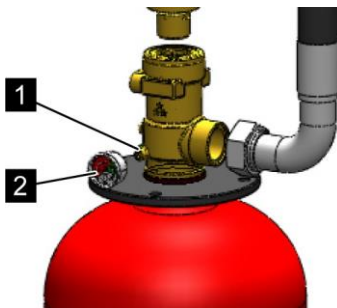

Fig. 66: Screw in the contact pressure gauge
2. ➔ Screw the contact pressure gauge (Fig. 66/2) into the connection on the valve (Fig. 66/1) as far as it turns easily *by hand*.